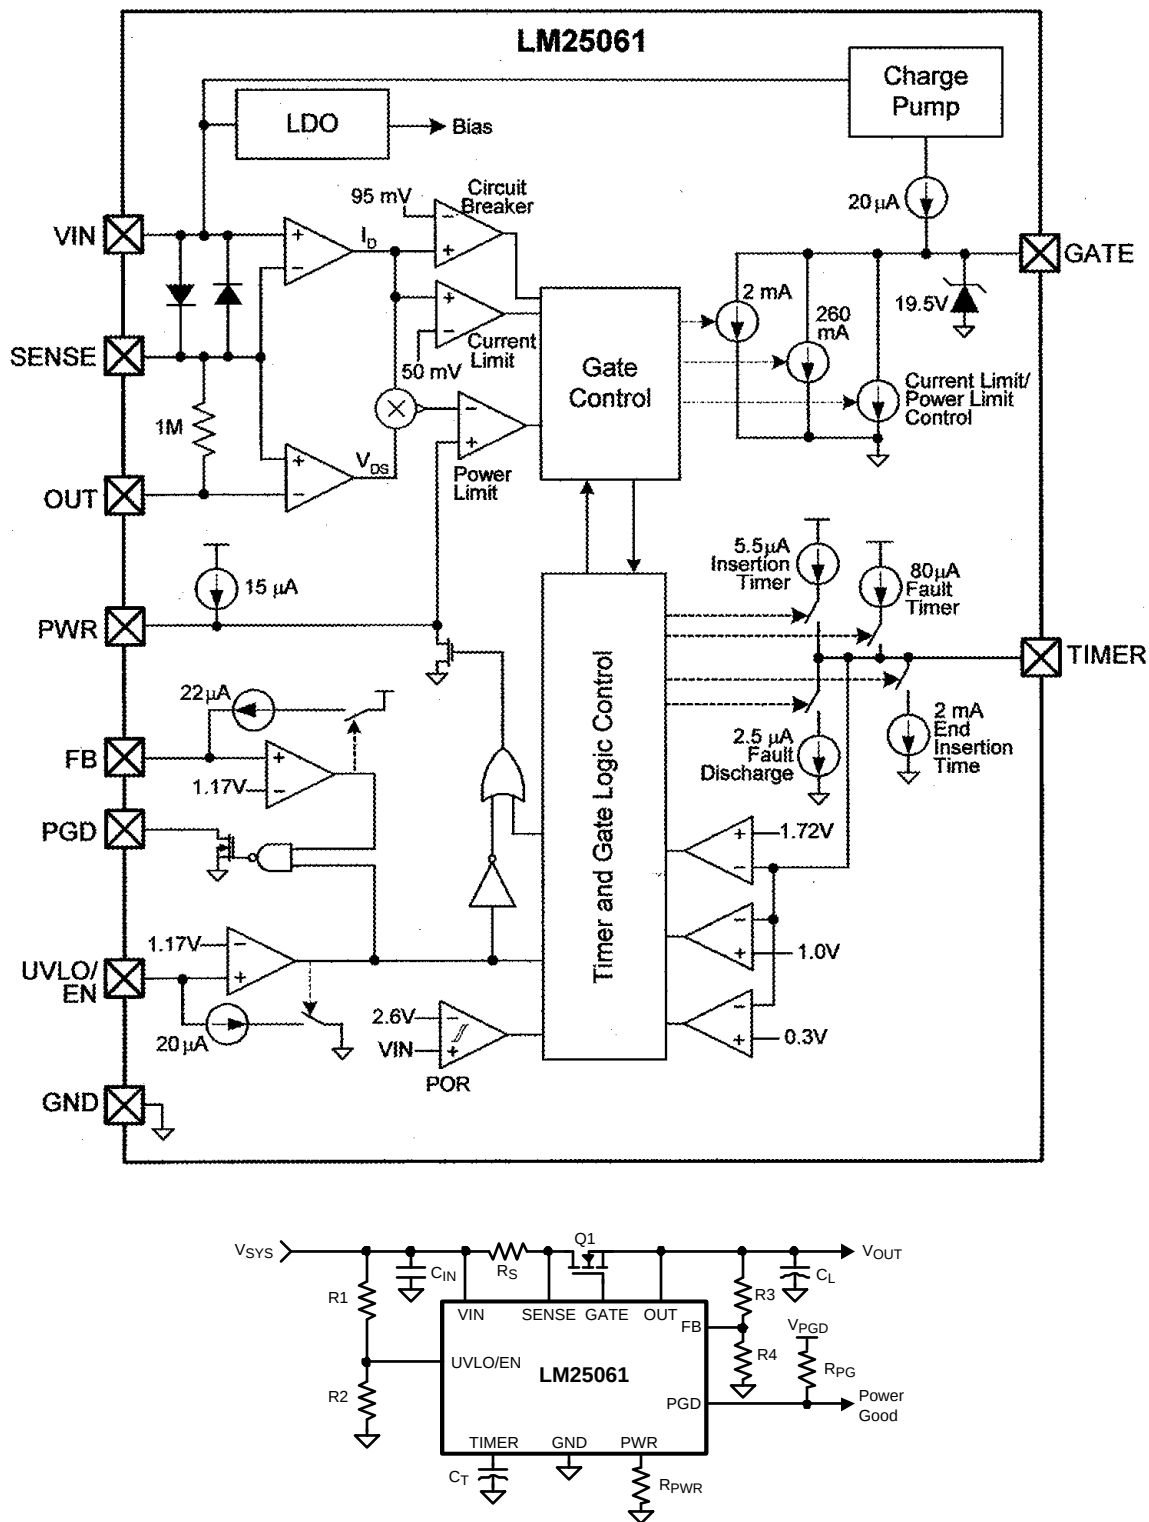
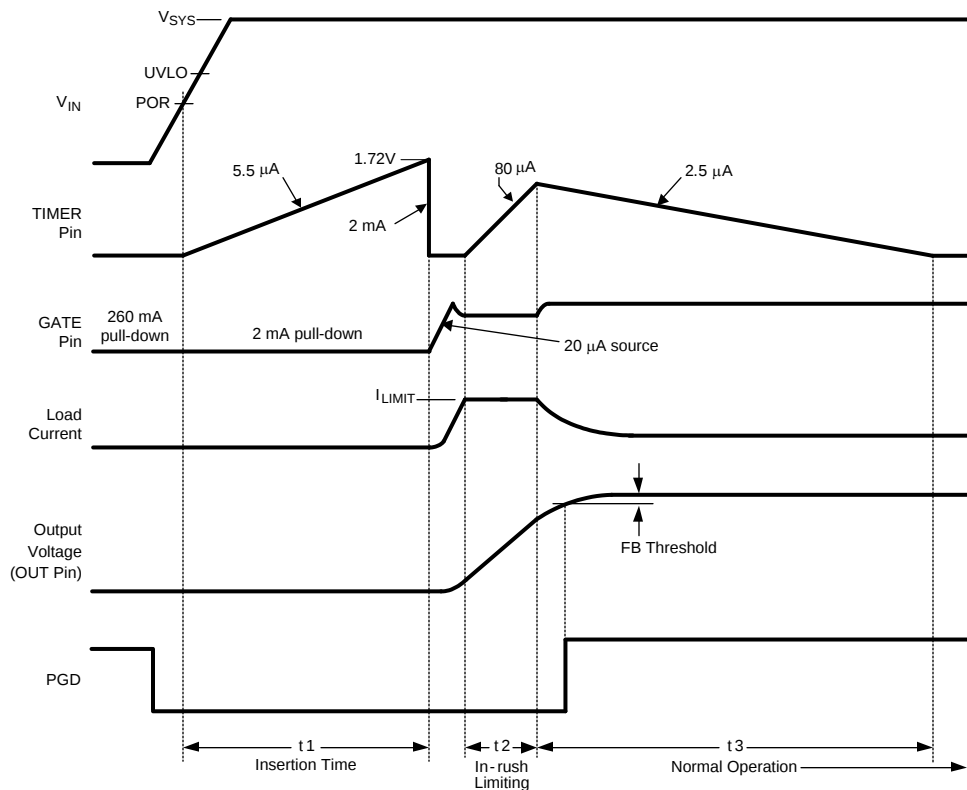

Figure 21. Basic Application Circuit
Figure 23. Power Up Sequence (Current Limit only)
The VIN operating range of the LM25061 is +2.9V to +17V, with a transient capability to 20V. Referring to the Block Diagram and Figure 21 and Figure 23, as the voltage at VIN initially increases, the external N-channel MOSFET (Q1) is held off by an internal 260 mA pull-down current at the GATE pin. The strong pull-down current at the GATE pin prevents an inadvertent turn-on as the MOSFET's gate-to-drain (Miller) capacitance is charged. Additionally, the TIMER pin is initially held at ground. When the VIN voltage reaches the POR threshold the insertion time begins. During the insertion time, the capacitor at the TIMER pin (C_T) is charged by a 5.5 μ A current source, and Q1 is held off by a 2 mA pull-down current at the GATE pin regardless of the VIN voltage. The insertion time delay allows ringing and transients at VIN to settle before Q1 is enabled. The insertion time ends when the TIMER pin voltage reaches 1.72V. C_T is then quickly discharged by an internal 2 mA pull-down current. The GATE pin then switches on Q1 when V_{SYS} exceeds the UVLO threshold. If V_{SYS} is above the UVLO threshold at the end of the insertion time, Q1 switches on at that time. The GATE pin charge pump sources 20 μ A to charge Q1's gate capacitance. The maximum voltage at the GATE pin is limited by an internal 19.5V zener diode.
As the voltage at the OUT pin increases, the LM25061 monitors the drain current and power dissipation of MOSFET Q1. In-rush current limiting and/or power limiting circuits actively control the current delivered to the load. During the in-rush limiting interval (t_2 in Figure 23) an internal 80 μ A fault timer current source charges C_T . If Q1's power dissipation and the input current reduce below their respective limiting thresholds before the TIMER pin reaches 1.72V the 80 μ A current source is switched off, and C_T is discharged by the internal 2.5 μ A current sink (t_3 in Figure 23). The in-rush limiting interval is complete when the load current reduces to the normal operating level. The PGD pin switches high when the output voltage exceeds the threshold programmed at the FB pin.
A charge pump provides the voltage at the GATE pin to enhance the N-Channel MOSFET's gate. During normal operating conditions (t_3 in Figure 23) the gate of Q1 is held charged by an internal 20 μA current source. The voltage at the GATE pin (with respect to ground) is limited by an internal 19.5V zener diode. See the graph "GATE Pin Voltage". Since the gate-to-source voltage applied to Q1 could be as high as 19.5V during various conditions, a zener diode with the appropriate voltage rating must be added between the GATE and OUT pins if the maximum V_{GS} rating of the selected MOSFET is less than 19.5V. The external zener diode must have a forward current rating of at least 260 mA.
During the insertion time (t_1 in Figure 23) the GATE pin is held low by a 2 mA pull-down current. This maintains Q1 in the off-state until the end of t_1 , regardless of the voltage at VIN or UVLO.
Following the insertion time, during t_2 in Figure 23, the gate voltage of Q1 is modulated to keep the current or power dissipation level from exceeding the programmed levels. While in the current or power limiting mode the TIMER pin capacitor is charging. If the current and power limiting cease before the TIMER pin reaches 1.72V the TIMER pin capacitor then discharges, and the circuit enters normal operation.
The series pass MOSFET (Q1) is enabled when the input supply voltage (V_{SYS}) is greater than the programmable under-voltage lockout (UVLO) level. Typically the UVLO level at V_{SYS} is set with a resistor divider (R1-R2) as shown in Figure 21. Referring to the Block Diagram when V_{SYS} is below the UVLO level, the internal 20 μ A current source at UVLO is enabled, and Q1 is held off by the 2 mA pull-down current at the GATE pin. As V_{SYS} is increased, raising the voltage at UVLO above its threshold the 20 μ A current source at UVLO is switched off, increasing the voltage at UVLO, providing hysteresis for this threshold. With the UVLO pin above its threshold, Q1 is switched on by the 20 μ A current source at the GATE pin if the insertion time delay has expired. See the Applications Section for a procedure to calculate the values of the threshold setting resistors (R1-R2). The minimum possible UVLO level at V_{SYS} can be set by connecting the UVLO pin to VIN. In this case Q1 is enabled after the insertion time.
The Power Good indicator pin (PGD) is connected to the drain of an internal N-channel MOSFET capable of sustaining 17V in the off-state, and transients up to 20V. An external pull-up resistor is required at PGD to an appropriate voltage to indicate the status to downstream circuitry. The off-state voltage at the PGD pin can be higher or lower than the voltages at VIN and OUT. The PGD pin switches high when the voltage at the FB pin exceeds its threshold. Typically the output voltage threshold is set with a resistor divider (R3-R4) as shown in Figure 21, although the monitored voltage need not be the output voltage. Any other voltage can be monitored by connecting R3 to that voltage as long as the voltage at the FB pin does not exceed its maximum rating. Referring to the Block Diagram, when the voltage at the FB pin is below its threshold, the internal 22 µA current source at FB is disabled. As the output voltage increases, taking FB above its threshold, the current source is enabled, sourcing current out of the pin, raising the voltage at FB to provide threshold hysteresis.
(Refer to Figure 21)
A) Insertion Delay - Upon applying the system voltage (V_{SYS}) to the circuit, the external MOSFET (Q1) is held off during the insertion time (t_1 in Figure 23) to allow ringing and transients at V_{SYS} to settle. Since each backplane's response to a circuit card plug-in is unique, the worst case settling time must be determined for each application. The insertion time starts when V_{IN} reaches the POR threshold, at which time the internal $5.5 \mu\text{A}$ current source charges C_T from 0V to 1.72V. The required capacitor value is calculated from: